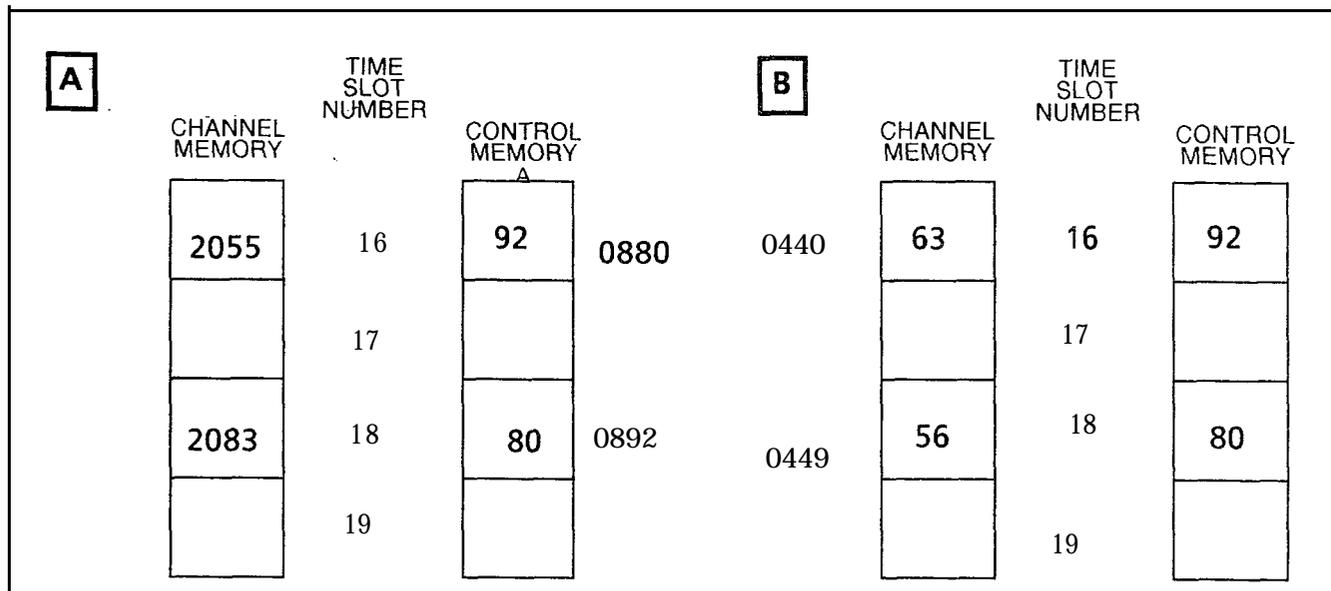

Figure 6.2 Time-Switch Memory Setup (Channel 16)
1. A call has been established between Directory Number 2083 (physical location: group A, universal card slot 5, circuit 6) and directory number 2055 (physical location: group B, universal card slot 6, circuit 3) (see Figure 6.2).
4. By looking at the Control Memory address of Channel 18 (address 0892), the system knows that Directory Number 2083 is calling directory number 2055. Control memory address 0892 (80 hex) is pointing to 0880 (92 hex). See Figure 6.2.